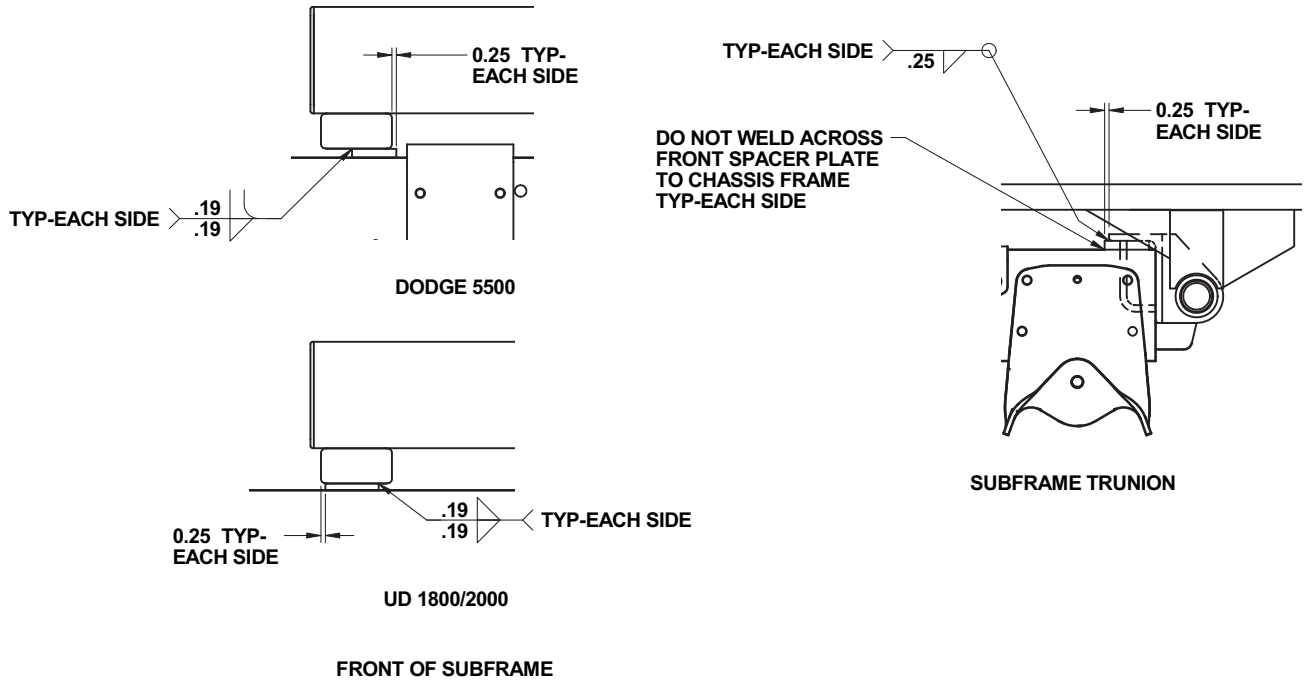

Figure 3 - Spacer Installation
2. For Dodge and UD chassis, spacers are required to raise the subframe above obstructions on the top of the chassis frame. Place two spacers under the trunnion and two spacers under the front cross-tube of the subframe and weld as shown in Figure 3